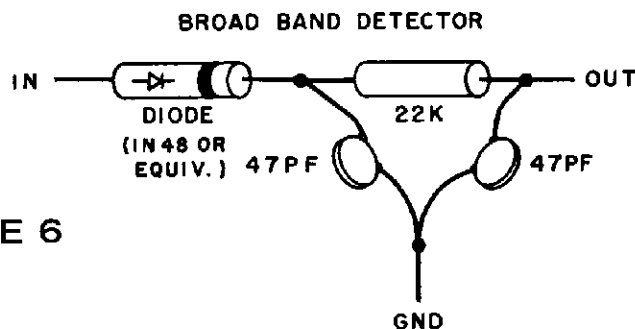
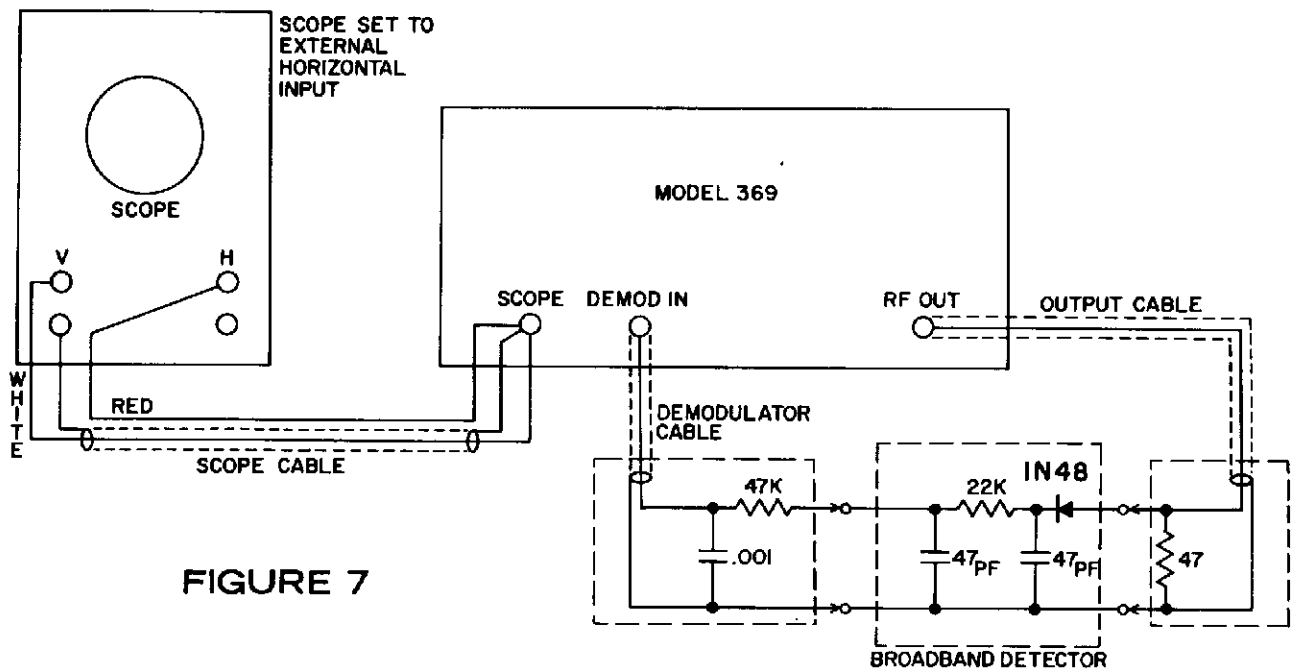

FIGURE 6
FIGURE 7
1. For the calibration and adjustment of the Model 369, it is necessary to make up a broadband detector. The broadband detector simulates a device with flat frequency response over the entire frequency spectrum of the Model 369. The components for the detector are easily obtainable and should be wired as shown in Fig. 6. (The broadband detector is shown schematically in Fig. 7.)
2. Connect the Model 369, the broadband detector, and an oscilloscope as shown in Fig. 7. This set-up is good for all calibration and adjustments.